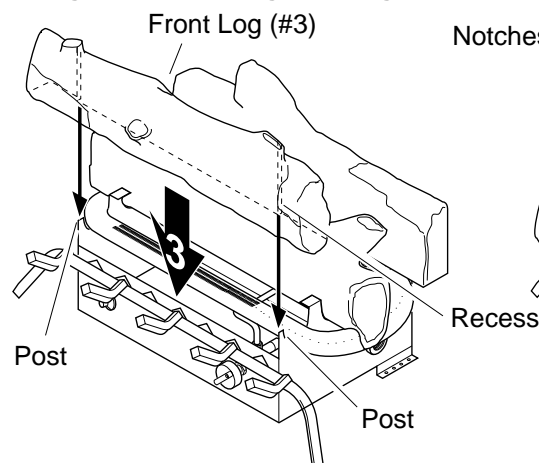

Figure 18 - Installing Front Log (#3)
3. Locate the recesses on the back of the front log (#3). Fit these recesses between the posts of the grate base (see Figure 18).